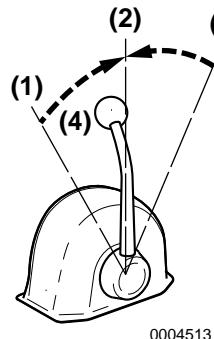

Figure 2
Use the throttle handle (**Figure 2, (4)**) to control acceleration and deceleration. Move the handle slowly.
2. NOTICE: NEVER shift the marine gear at high engine speed. During normal operation, the marine gear should only be shifted with the engine at idle. When moving the handle between FORWARD (**Figure 2, (1)**) and REVERSE (**Figure 2, (3)**), bring the clutch to NEUTRAL (**Figure 2, (2)**) and pause before slowly shifting to the desired position. Do not shift abruptly from FORWARD to REVERSE or vice versa.